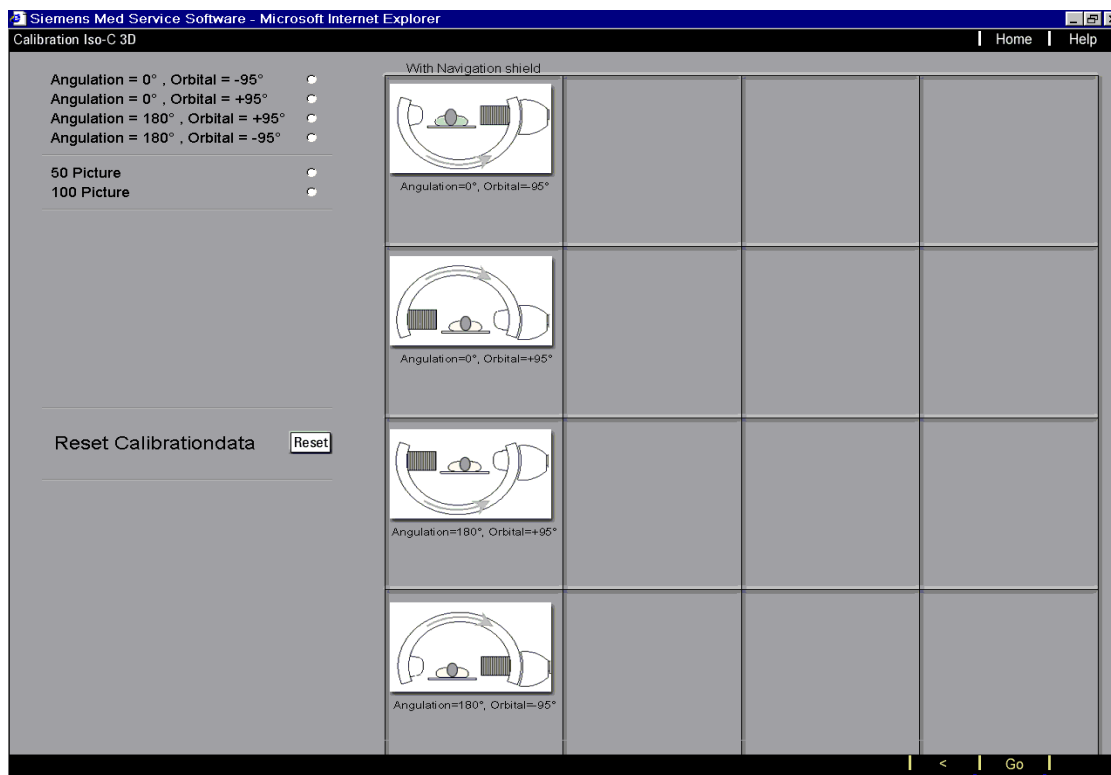

Fig. 16
- If all three tips are within the imaged marker cone on the navigation screen of the navigation company, then the accuracy of the 3D navigation is proven (Fig. 16).